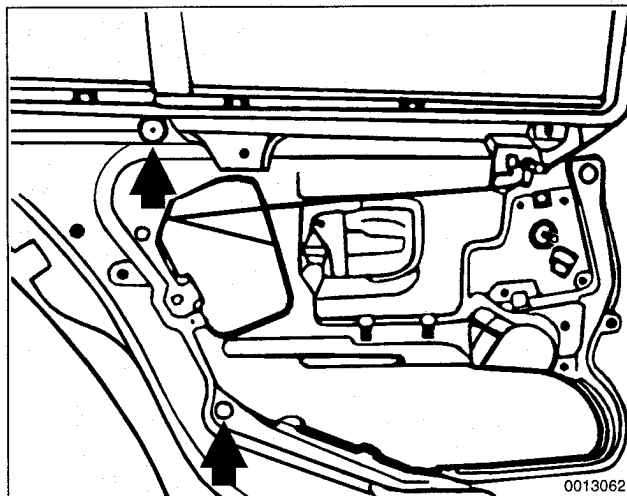

Fig. 9. Rear window track lower fasteners (arrows).
4. Remove screws mounting bottom of window rear track to door. See Fig. 9.